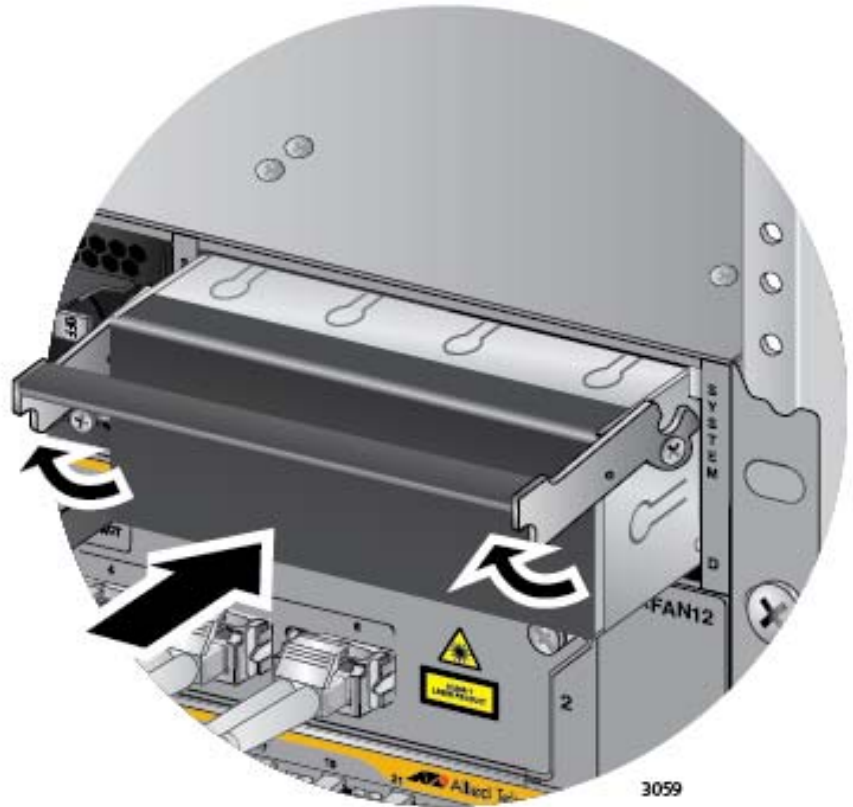

Figure 167. Installing a Blank Power Supply Slot Cover
13. Place the locking handle on the slot cover in the up position and slide the cover into the empty power supply slot. Refer to Figure 167 on page 267.